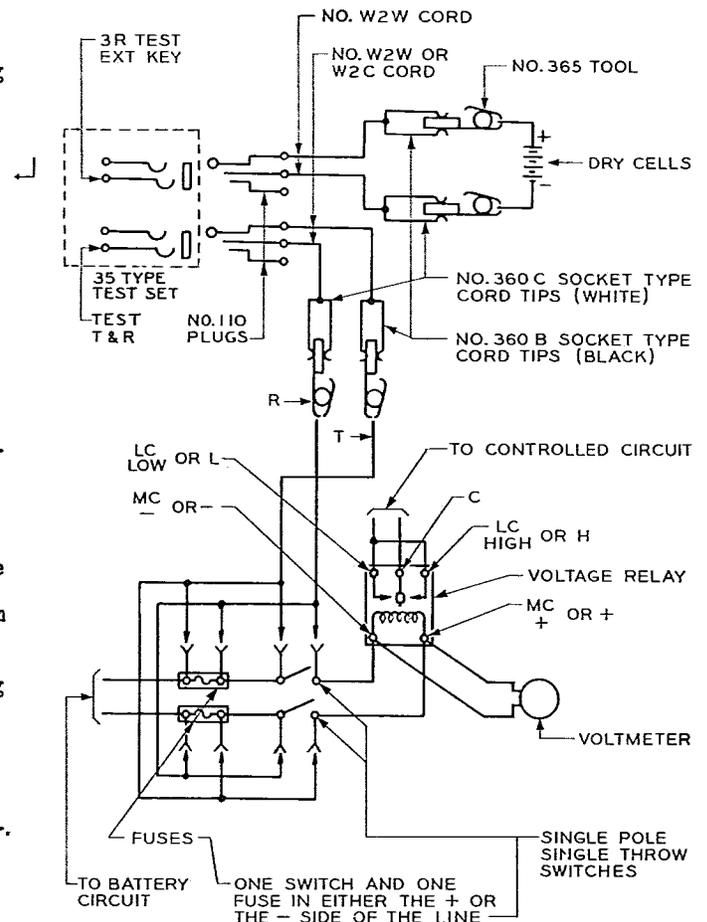

FIG. 8—METHOD OF CONNECTING TEST APPARATUS FOR REGULAR VOLTAGE RELAYS
(1) **Regular Voltage Relays:** In order to determine whether or not the electrical requirements are met, connect the test apparatus as shown in Fig. 8. Place the knife switches of the No. 3 telegraph key of the 35 type test set in the position marked "0". See that the "GRD" key is open and the "REV" key is normal. Place the red resistance slider associated with the No. 3 key in its minimum resistance position (to the left). Place the corresponding black resistance slider in a position where approximately three fourths of the resistance will be removed (one quarter of the distance from left to right). Close the No. 3 telegraph key of the test set and the "BATT. & GRD. C.O." key before removing the fuse or opening the voltage relay switch. (For a description of the test set, see the Section A702.002).
(2) Adjust the No. 3 resistance slider until the lower limit of the specified low voltage is indicated on the voltmeter. The left contacts should make as indicated by the functioning of the controlled circuit.
(3) To increase the applied voltage towards the upper limit of the specified low voltage decrease the resistance in the circuit through the test set. Observe whether or not the controlled circuit functions just before or just as the upper limit of the specified low voltage is reached.
(4) Then adjust the No. 3 slider of the test set until the lower limit of the specified high voltage is reached. The controlled circuit should not function until this limit is reached but it should function before or when the upper limit of the specified high voltage is reached.